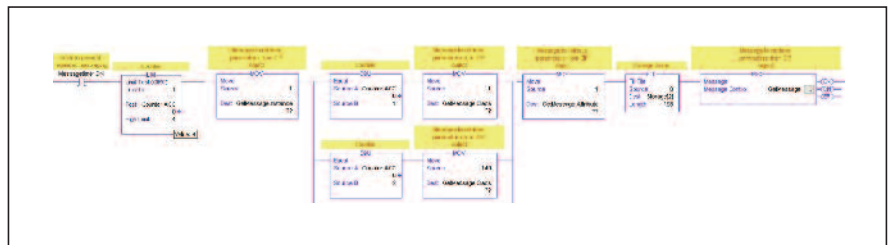

Figure 16 MSG instruction used to obtain data from multiple CIP objects
Implicit data from the I/O channel and information from any CIP object can be obtained through explicit messaging using the MSG instruction. Although multiple MSG instructions can be configured to poll individual CIP objects, this approach complicates AOI configuration and use, as well as places heavy demands on the controller’s explicit message buffers. Alternatively, an AOI or code can be created to acquire data from several CIP objects with the class, instance and attribute settings for the MSG instruction changed after completion ready for the next scan of the program (Figure 16). An input state, program condition or a timer can trigger CIP object polling. For many continuous operations, the timer is the most appropriate option. While timer-based messaging allows data to be read from several objects, it can also lead to slow cycle times, particularly if several objects need to be interrogated in turn. Polling CIP objects on a “condition based” basis uses controller resources more effectively because it only triggers the MSG instruction when necessary. For example, certain types of information can be obtained by pressing a control panel button, or continuously retrieved by selecting the appropriate screen on an HMI system.
6. **Configure message instructions – to ease user configuration, use one message per CIP service.** Using a single MSG instruction for multiple objects (Figure 16) further streamlines configuration.